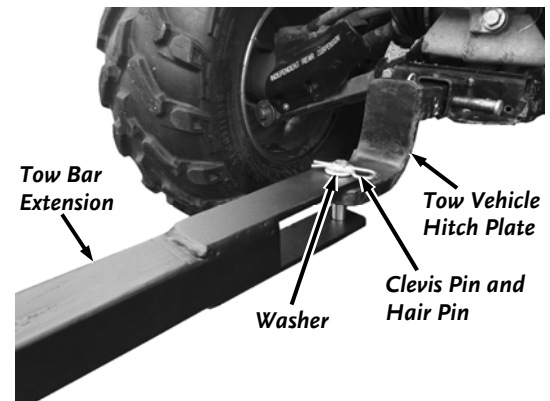

Figure 10
2. Align the Tow Hitch to the hole in the center of your Hitch Plate with the top portion of the Tow Hitch above the Hitch Plate and the bottom portion below (**Figure 10**).